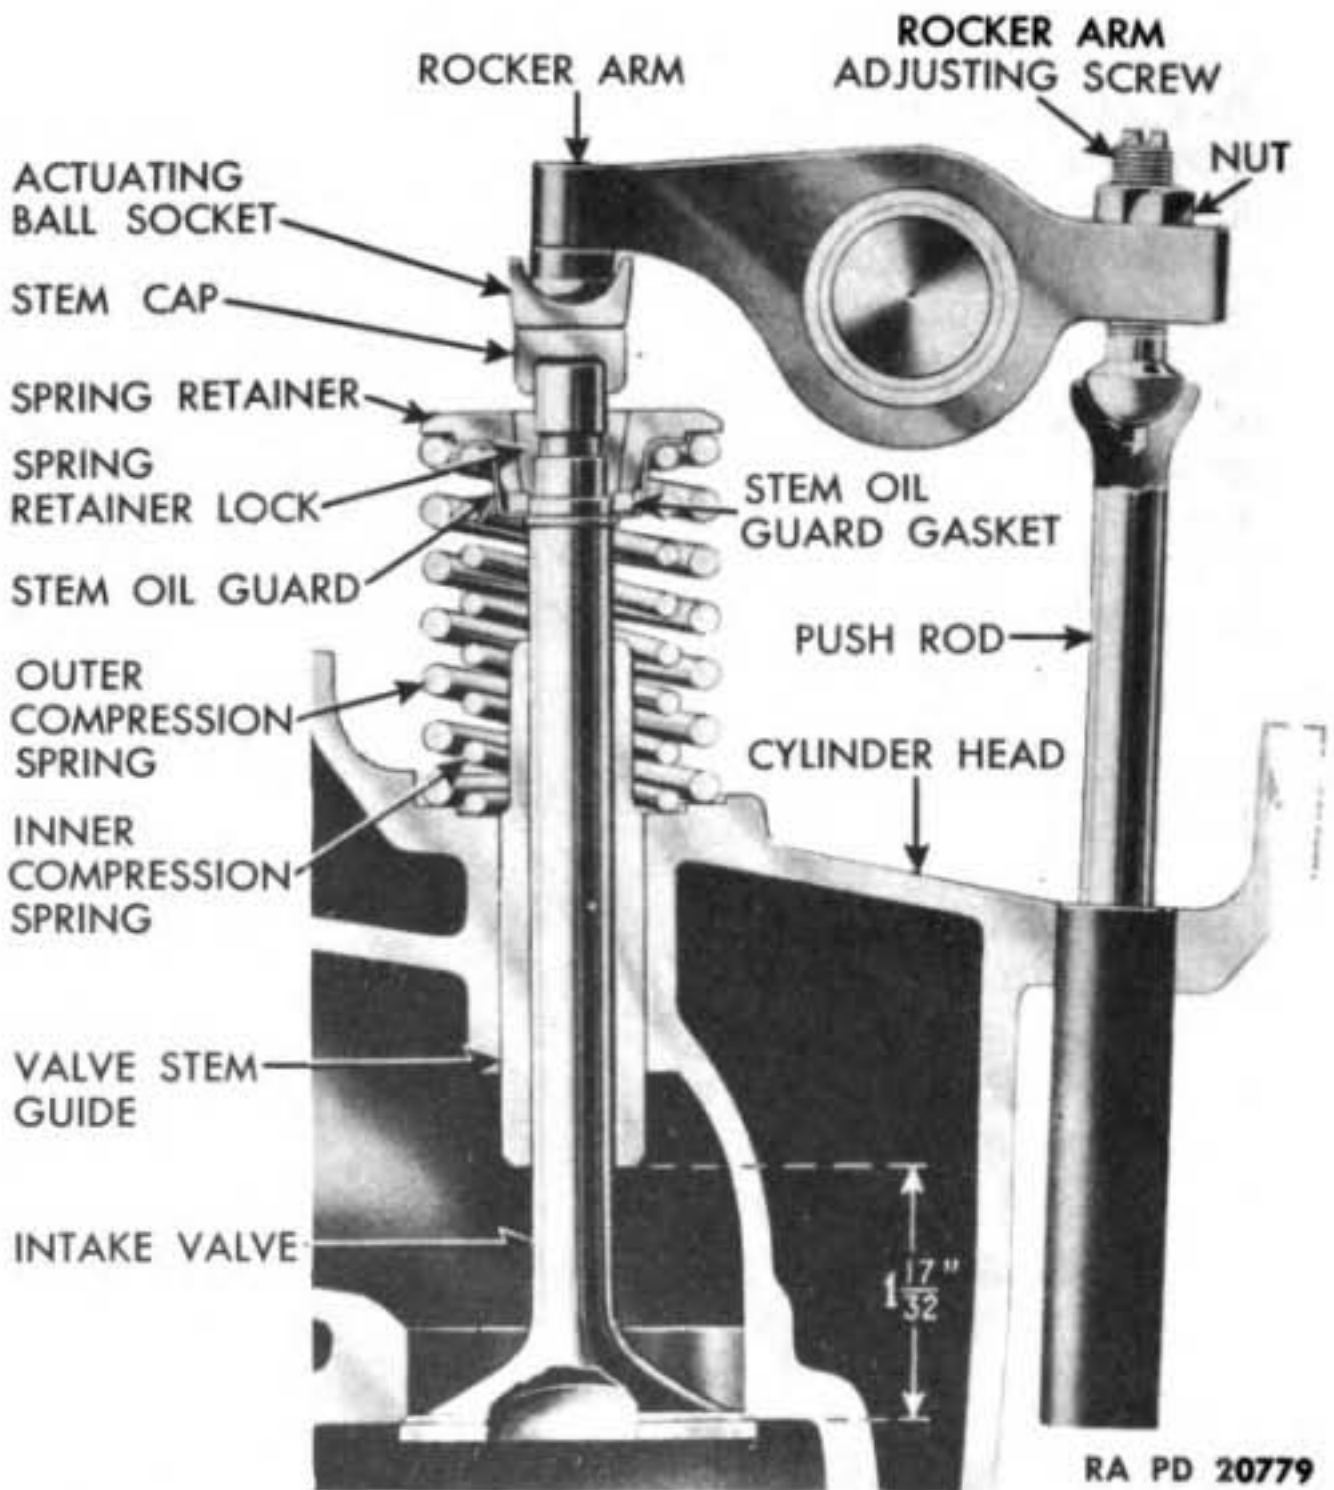
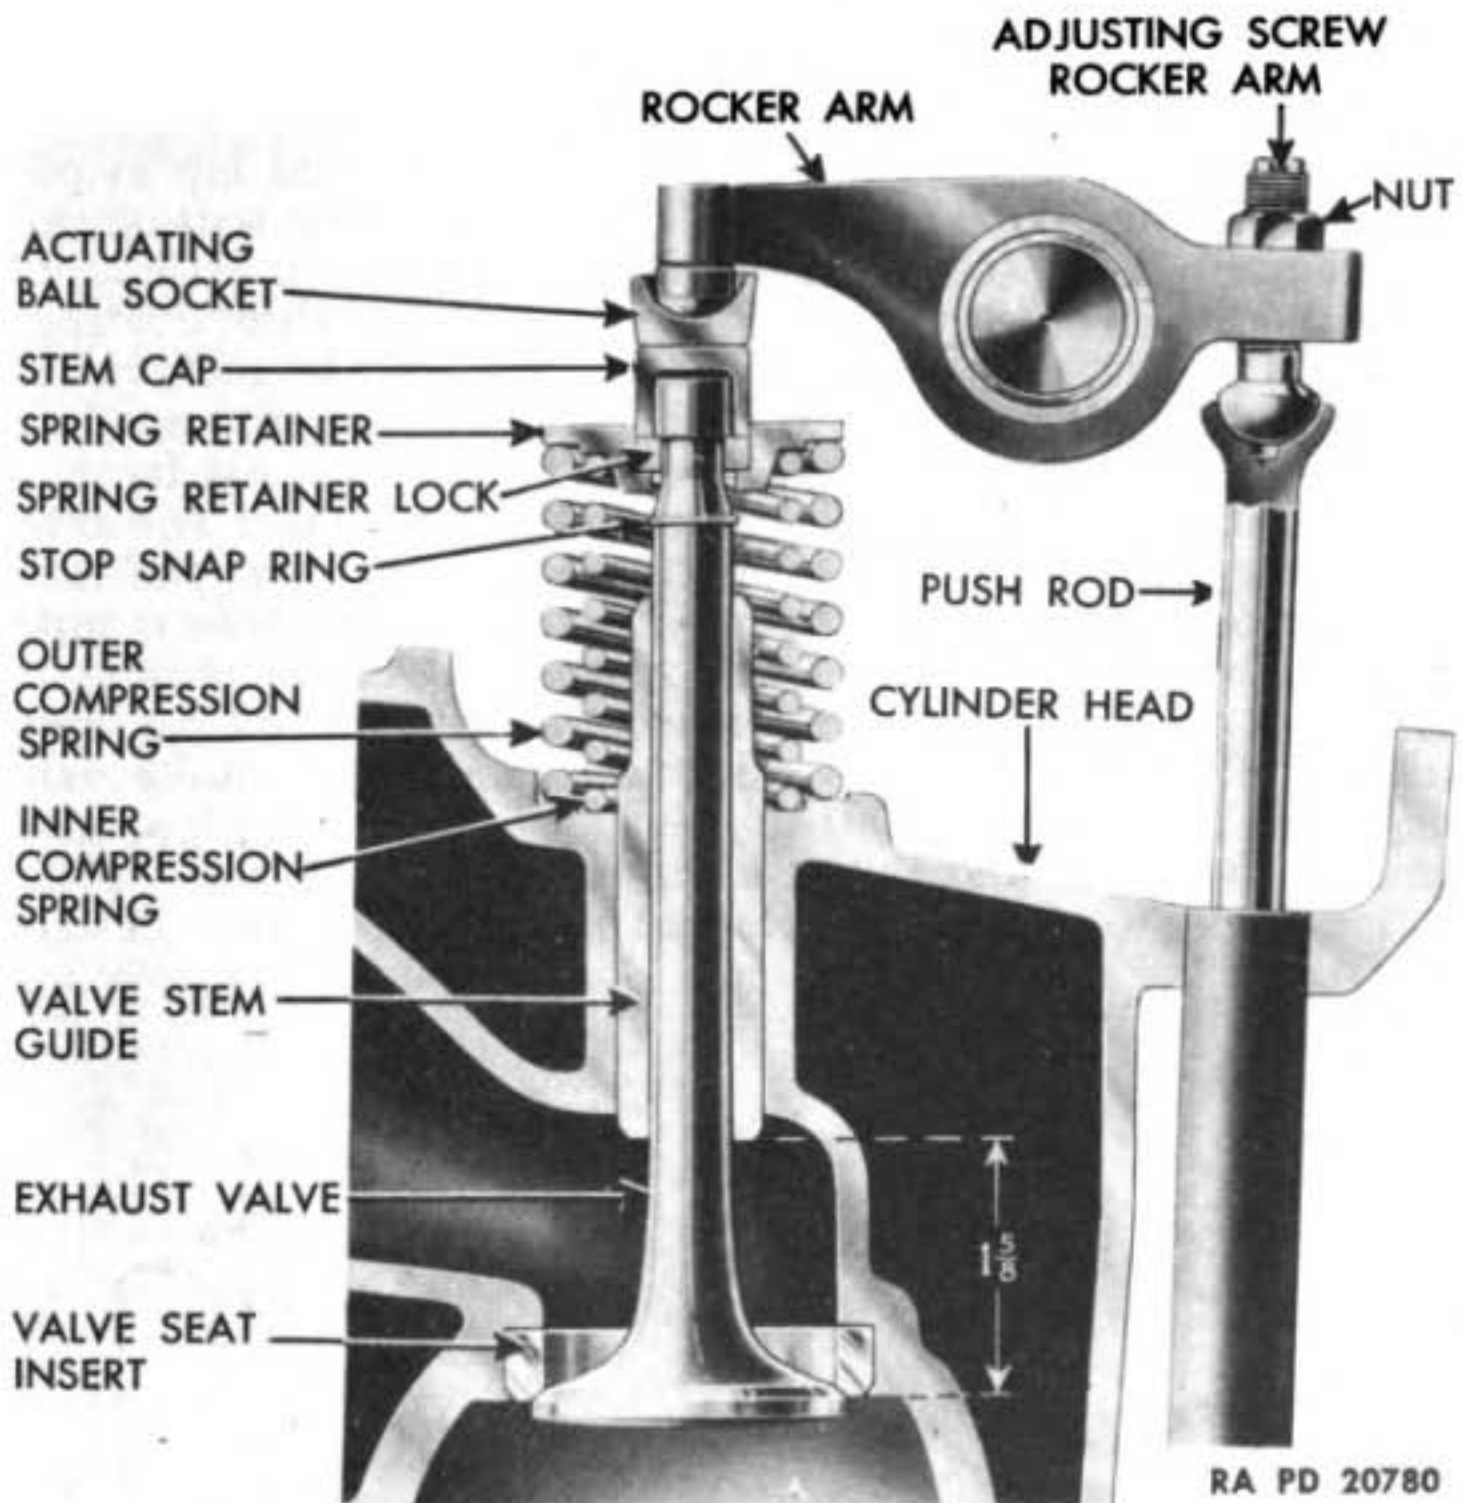

Figure 47 — Cross-Section of Intake Valve Assembly
Figure 48 — Cross-Section of Exhaust Valve Assembly
(3) **VALVE GUIDES.** Place head bottom side up, supported by a piece of wood at each end. Drive old guides out with a $\frac{7}{8}$ -inch drift. Replace new guides with same drift. Drive intake guide in until end of guide is $1\frac{17}{32}$ inches from face of valve seat (fig. 47). The exhaust valve guide is driven in until end is $1\frac{5}{8}$ inches from valve seat (fig. 48). After installing guides, ream to 0.4985 to 0.4990 inches. Valve seats should always be refinished after new guides are installed. Refer to step (1) above for refinishing of valve seats.
e. **Assemble.** Place valves in cylinder head, and lap in place. If valve refacing (subparagraph d (2)) and valve seat grinding (subparagraph d (1)) have been done properly, very little lapping will be necessary. After lapping, rub a very thin coating of Prussian blue paste in oil on the valve face, and bounce valve on its seat to check for effective seating. Place valve stop snap rings in place in valve stem groove. Place valve springs, retainers, and locks in position on valves (figs. 47 and 48). *NOTE: The exhaust valve retainers are much thinner than intake retainers and have a straight recess for the lock, whereas intake retainers have a tapered recess for lock. The exhaust valve retainer locks are thinner than intake locks and have parallel sides, whereas intake locks are tapered.* Assemble oil guards and new oil guard gaskets on intake valves. Place valve lifter (41-L-1408) in position (subparagraph a above). Depress lifter lever and insert locks in proper position. Release lifter lever, and remove lifter. Repeat operation for other 11 valves.